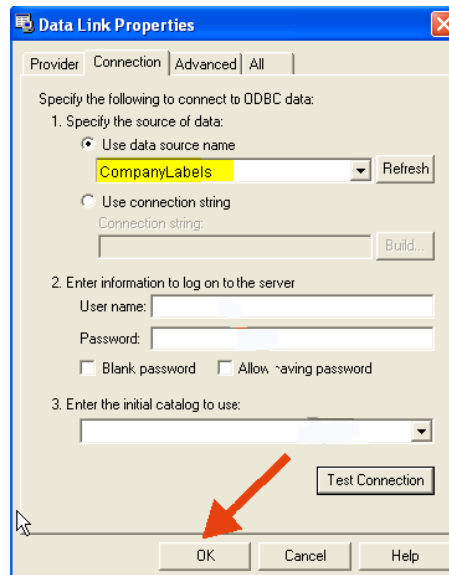

Figure 4-7
4.2.8. Click [OK]. (Figure 4-7)